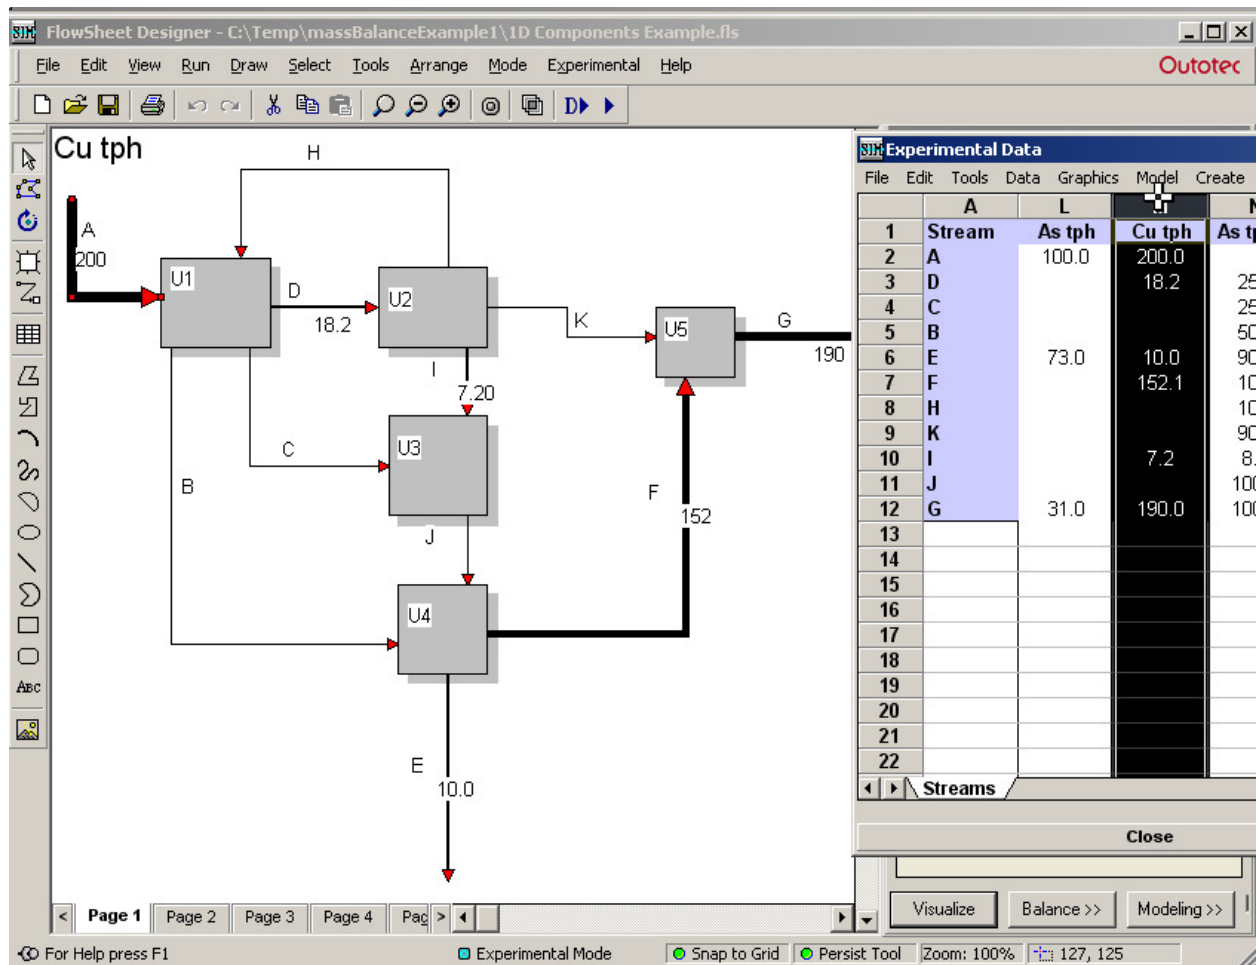

Figure 9. Visualizing variable in the flowsheet.
6. In the Analyses window select column to visualize the variable in the flowsheet (Figure 9).